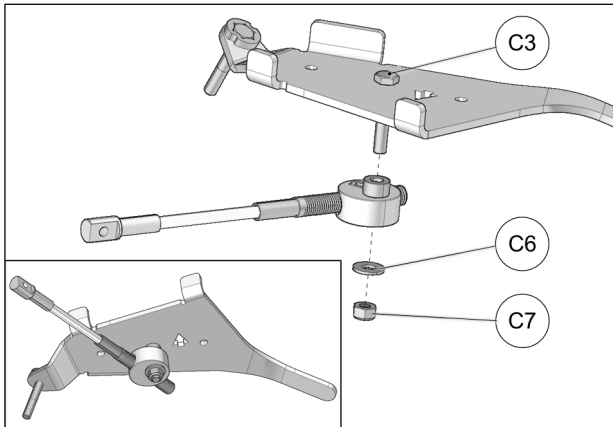

Fig. 17
- Slide aluminum disk of steering limiter cable assembly over bolt (C3) previously installed in step 7. Use supplied washer (C6) and nut (C7) to secure steering limiter assembly in place. Tighten nut to 50 N•m [37 lb•ft]. Refer to Fig. 17